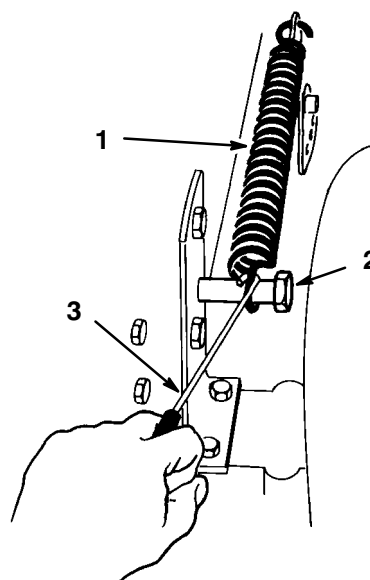

Figure 15
3. Remove the height-of-cut lift assist spring from the retaining bolt (Fig. 15), using the spring tool provided with the machine. The spring is between the frame and the right rear wheel.
13. Move the height-of-cut lever (deck lift) into the "D" notch. Hook lift assist spring onto retaining bolt for storage (Fig. 15).